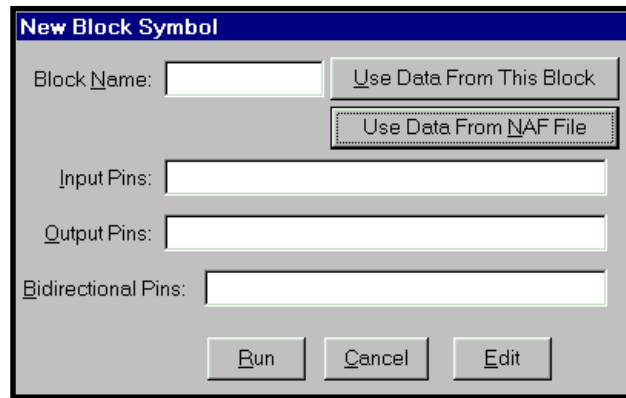

Figure 3-56. New Block Symbol Dialog Box
3. In the Schematic Editor, select **Add** ⇒ **New Block Symbol**. In the New Block Symbol dialog box (Figure 3-56) that appears, type a name for the top-level symbol in the Block Name text field, relevant input pins in the Input Pins text field, relevant output pins in the Output Pins text field, and relevant bidirectional pins in the Bidirectional Pins text field.